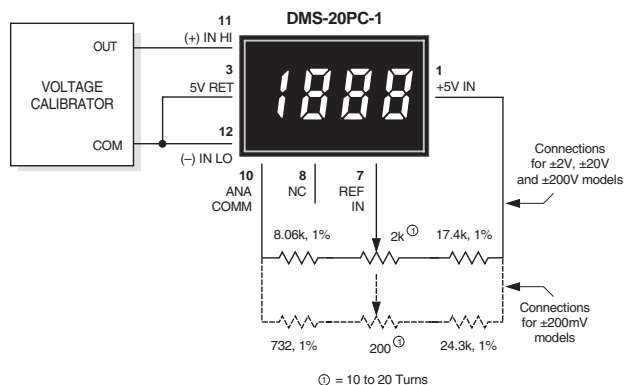

Figure 10. External Gain Adjustment
- 6. Gain Adjust:** There is a gain-adjust potentiometer on the back of each meter. It has approximately  $\pm 50$  counts ( $\pm 2.5\%$ ) range of adjustment. Since these devices essentially have no zero/offset errors, a gain adjustment is effectively an overall accuracy adjustment. Though they may be performed at any point (except zero), accuracy adjustments are most effective when performed with higher level input signals. The circuit shown in Figure 10 provides  $\pm 10\%$  range of adjustment.
- 8. External Gain Adjustment:** Connect REFERENCE OUT (pin 8) to REFERENCE IN (pin 7) for normal, factory calibrated, operation. Use the circuit shown in Figure 10 for applications needing external gain adjustment. Calibration is performed with a precise, near-full-scale, input voltage.